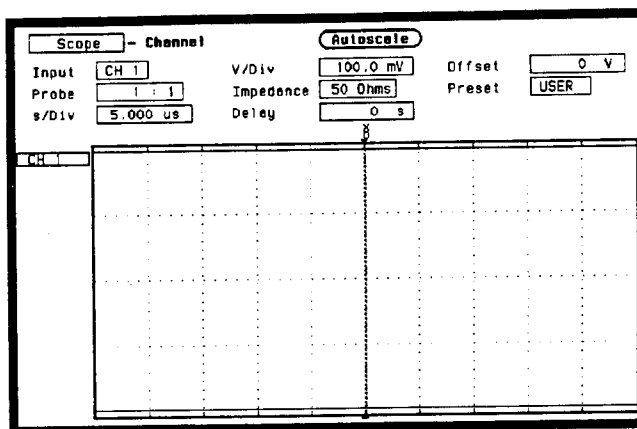

Figure 3-55. Channel Menu Configuration
- Set the **Input** to **CH 1**, **V/Div** to **100 mV**, **Offset** to **0 V**, **Probe** to **1:1**, **Impedance** to **50 Ohms**, and **s/Div** to **5.0 us** as in figure 3-55.